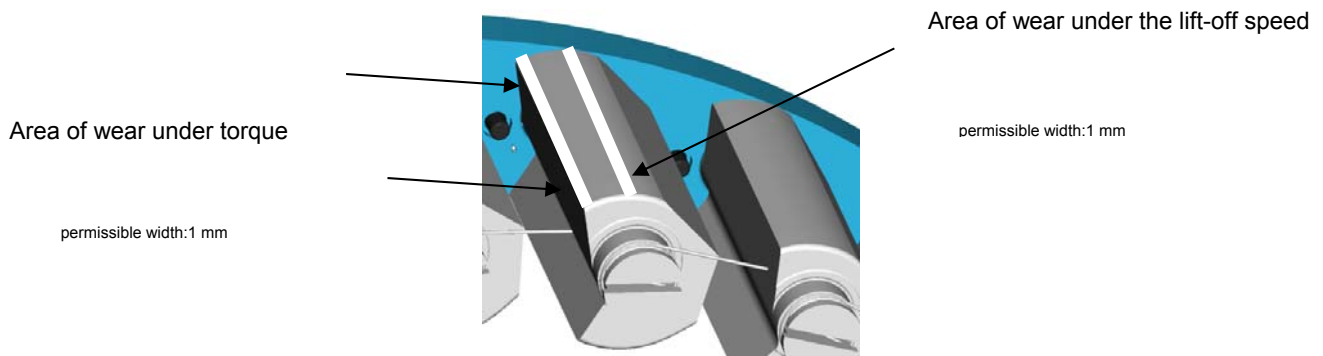

Figure 7: wear zone
- Pre-clean the outer race (1) and inner race including cage (8) with a petroleum-based industrial cleaning agent and degrease with an acetone-based cleaning agent
- Maximum width of the wear facet on the clamp bodies (see Figure 7)